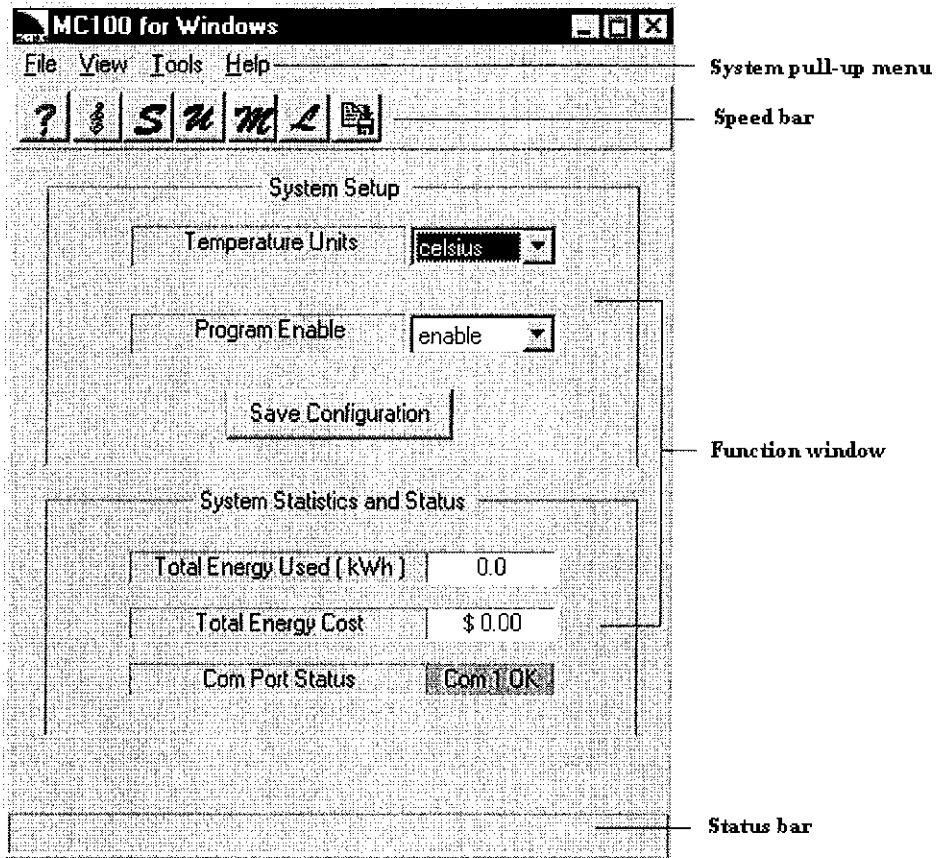

Fig.1 MC100 screen
A typical MC100 screen is shown in Fig.1. It consists of 4 major parts. They are: (1) System pull-up menu; (2) Speed bar; (3) Function window; (4) Status bar.